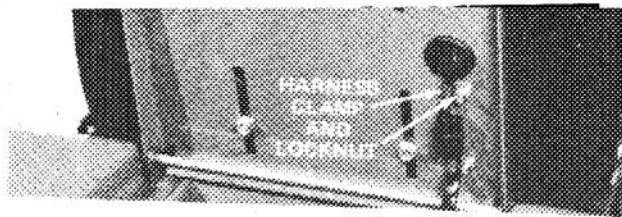

Figure 7
6. Install clamp around seat switch wire and over carriage bolt and secure with locknut (Fig. 7).